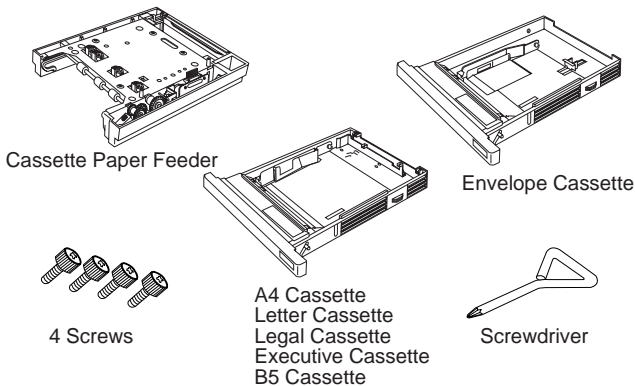

Fig. 4.1 *The Cassette Feeder Shipset*
Unpack the feeder tray and remove packing materials and tape. Taped to the feeder tray is a plastic bag containing four (4) screws and the screwdriver. Figure 4.1 shows the feeder tray and an example of the paper cassettes available for use with the feeder tray. You may purchase additional paper or envelope cassettes at any time.